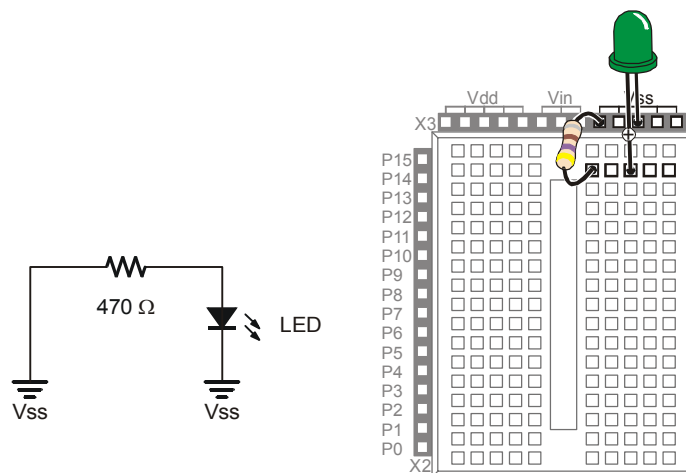

Figure 2-10
In the next activity, you will program the BASIC Stamp to turn the LED on, then off, then on again. The BASIC Stamp will do this by switching the LED circuit between two different connections, Vdd and Vss. You just finished working with the circuit where the resistor is connected to Vdd, and the LED emits light. Make the changes shown in Figure 2-10 to verify that the LED will turn off (not emit light) when the resistor's lead is disconnected from Vdd and connected to Vss.
- ✓ Unplug the resistor lead that's plugged into the Vdd socket, and plug it into a socket labeled Vss as shown in Figure 2-10.